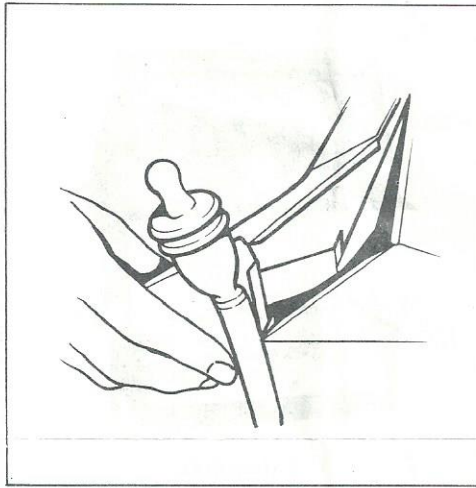

FIG. 4
3. With care to avoid scratching the decorative legs, remove the front bezel, or log effect box unit (as applicable) by sliding it upwards and clear of its locations behind the legs (Fig. 4).